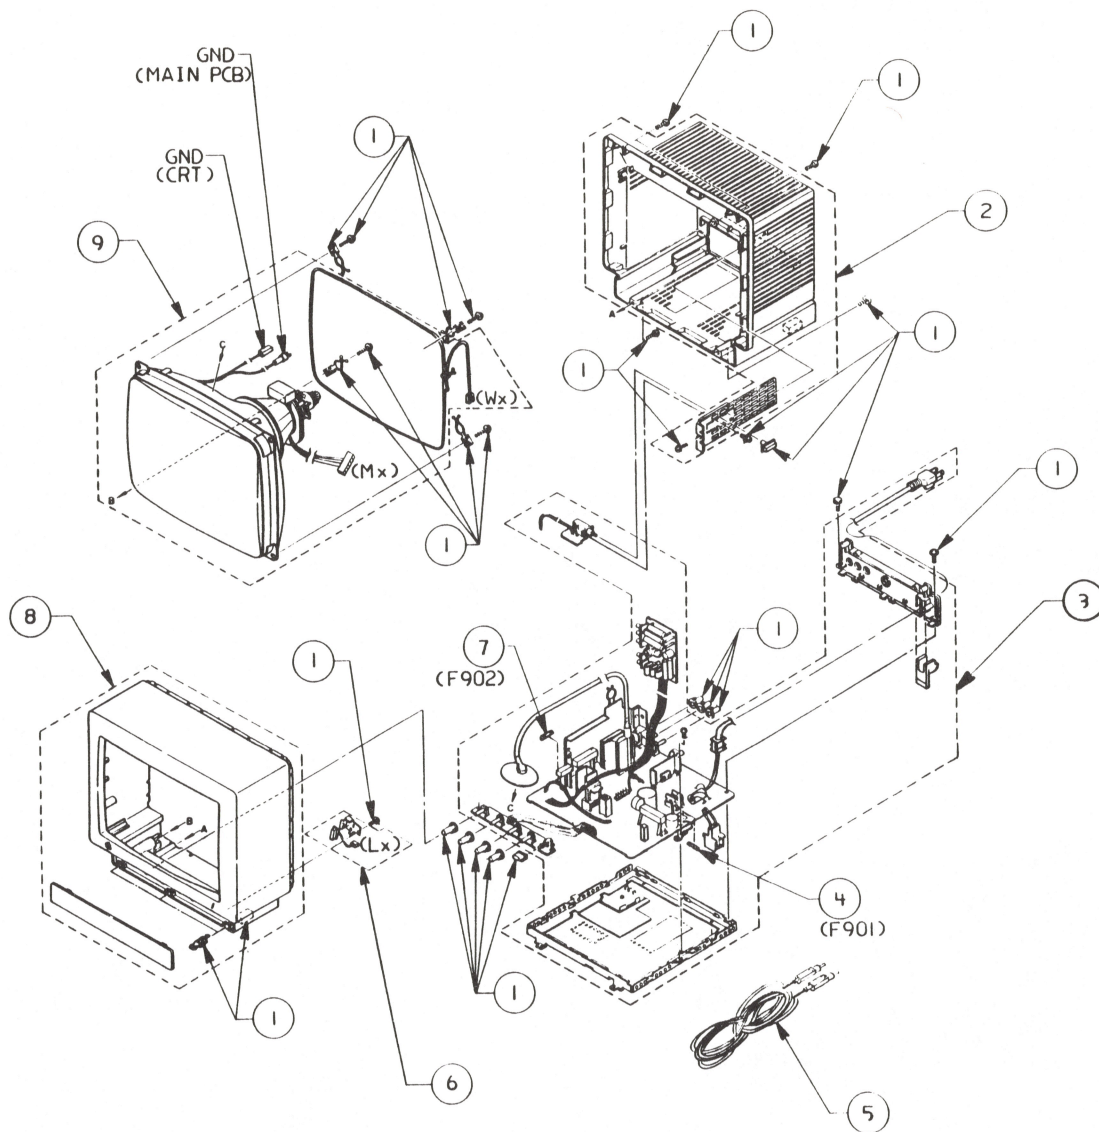

FIGURE 4
**COLORMONITOR IIc, SERIES "H" (Figure 4)**